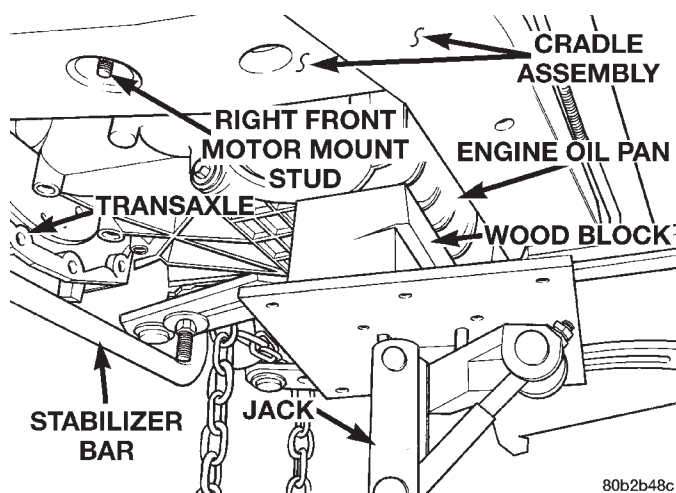

**Fig. 58 Jack Positioning Below Engine Oil Pan**
(14) Position a transmission jack under the body of the engine oil pan (Fig. 58). Use a wood block as a buffer between the jack and the engine oil pan in order to avoid damage to the pan (Fig. 58). Carefully raise the jack until the motor mounts clear the cradle assembly. It may be necessary to raise the jack further.
(15) Remove the stabilizer bar out the right side by rotating it, taking advantage of the removed
(2) Lower the jack supporting the engine, guiding the motor mount studs into place in the cradle assembly (Fig. 58).